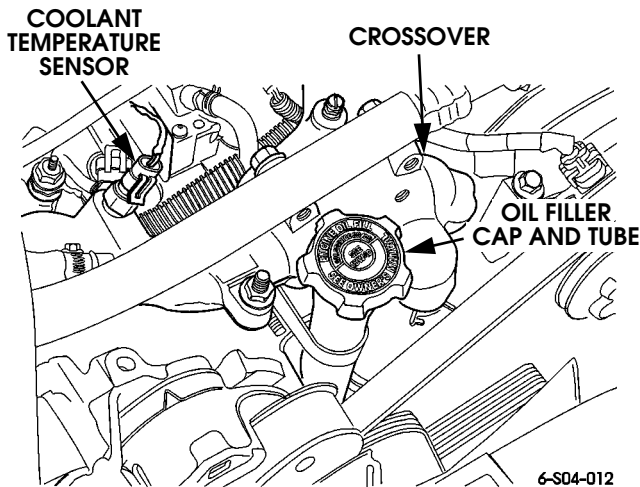

Figure 4-31: Filler Tube and Temperature Sensor Locations
3. Disconnect coolant temperature sensor wires (Figure 4-31).
4. Remove oil filler tube attaching nuts and remove filler tube (Figure 4-31).